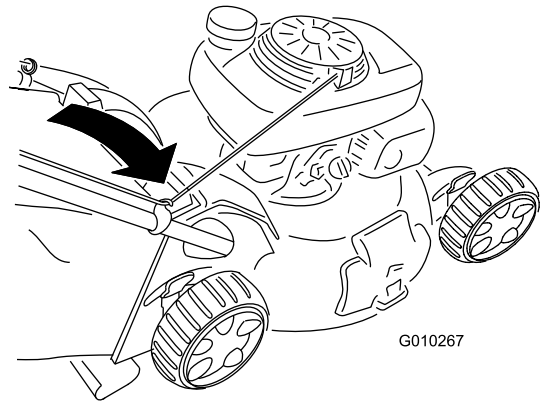

Figure 29
2. Route the starter rope around the lower rope guide (Figure 29).